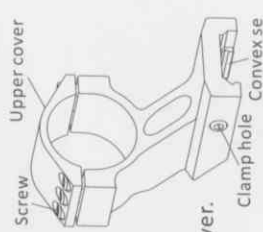

Fig 3 Mount bracket
1. The Mount bracket (Fig 3) is for connecting weapon with the sight.
- 2) Firstly insert the allen wrench into the clamp screw hole, then rotate to loosen the convex set (as shown in Fig3), slid the sight into the weapon rail to a right position, and finally fasten the clamp screw.